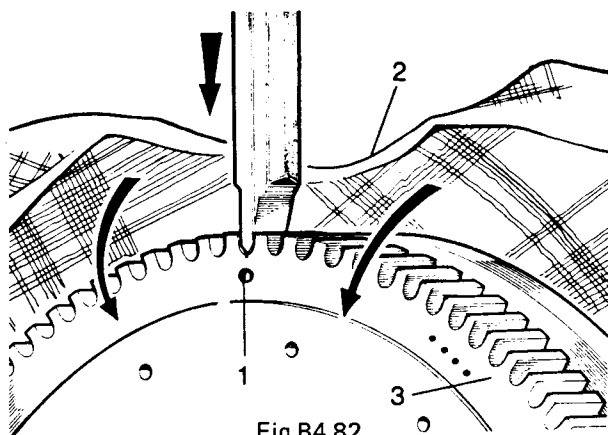

Fig B4.82
- (2) Refer to Fig B4.82. Drill a 10 mm diameter hole (1) axially between the root of any tooth and the inner diameter of the starter ring sufficiently deep to weaken the ring. DO NOT allow the drill to enter the flywheel.
- (3) Secure the flywheel in a vice fitted with soft jaws and place a cloth (2) over the flywheel as protection from flying fragments.